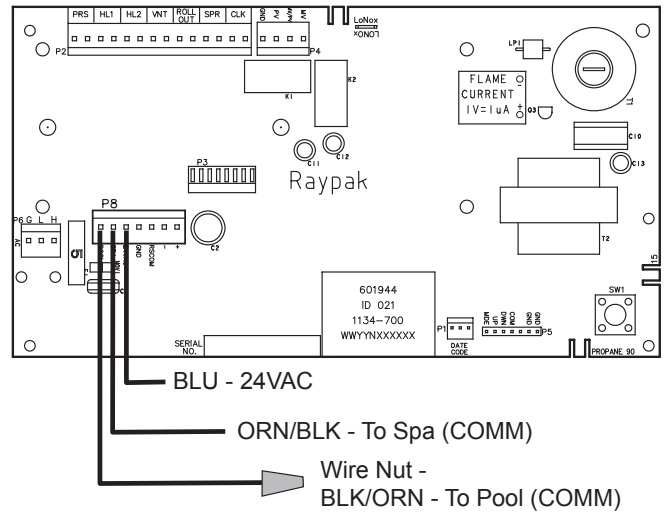

Figure 31. 2-Wire Remote Harness Installation on the P8 Connector, P-156 Only
7. Install the "7-Pin Remote Interface Harness" to the P8 connector and turn power "On" to the heater. See **Figure 31**.